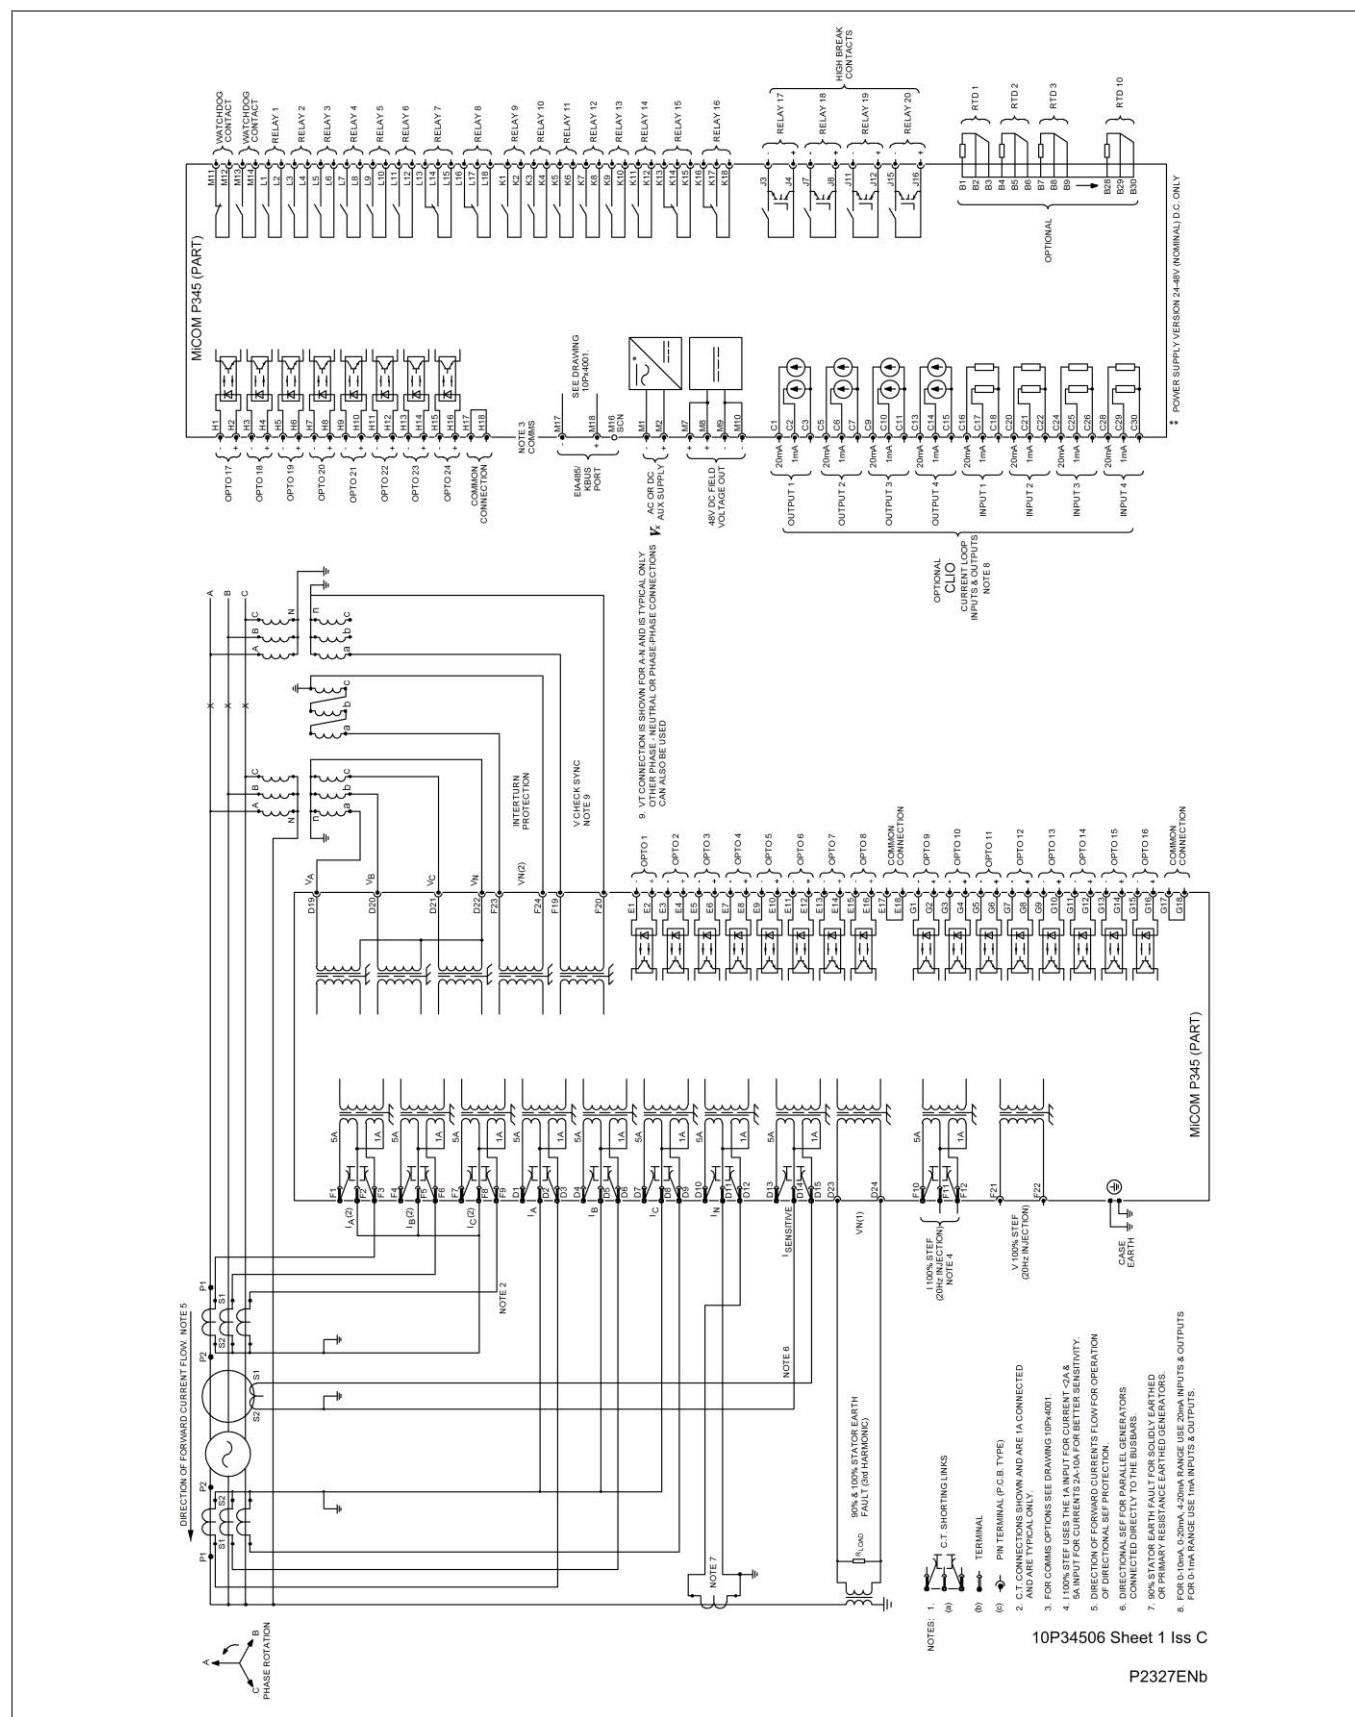

Figure 59 - P345 (80TE) with 90% & 100% (3rd Harmonic) stator earth fault & interturn protection (24 I/P & 20 O/P (4HB) & CLIO & RTD)
- Figure 59 - P345 (80TE) with 90% & 100% (3rd Harmonic) stator earth fault & interturn protection (24 I/P & 20 O/P (4HB) & CLIO & RTD)